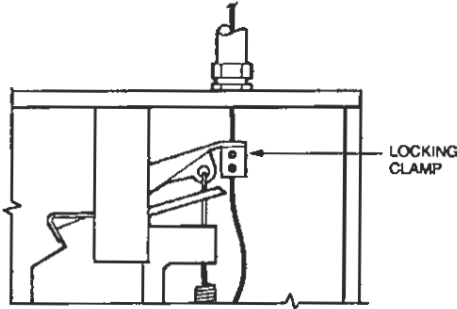

FIGURE 24
3. Starting at the release assembly, feed the wire rope through the hole in the release mechanism locking clamp, allowing the excess wire rope to hang down. (Do not tighten set screws in locking clamp at this time.) See Figure 24.